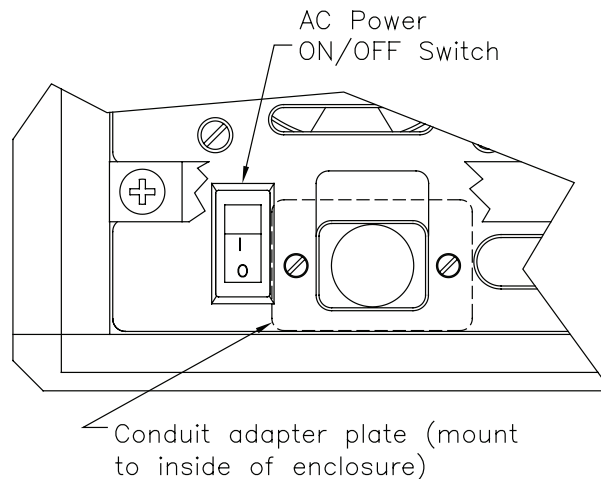

Figure 2: Installation of Conduit Adapter Plate
4. Install the Conduit Adapter Plate (supplied) in the hole where the AC Inlet Receptacle was removed (see Figure 2).